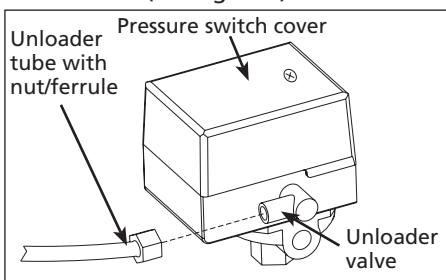

Figure 2
4. Remove the unloader tube from the unloader valve on the switch side by unthreading the nut and pulling the tube out (See Figure 2).